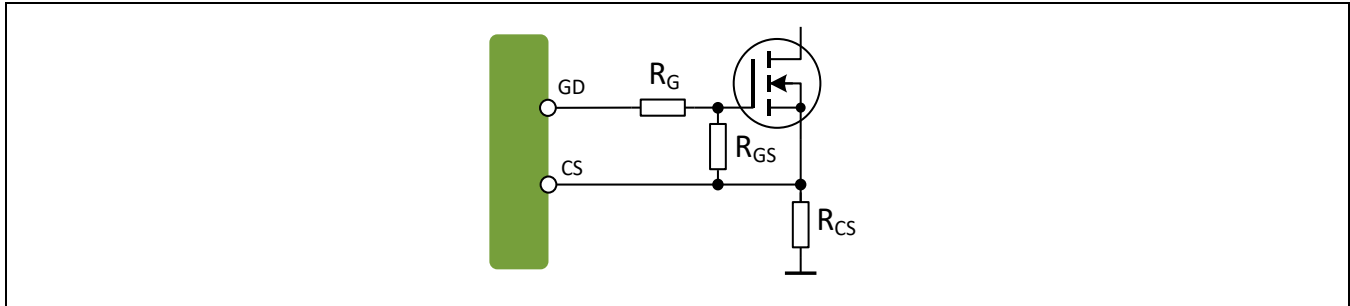

Figure 5 GD pin, CS pin, R_{CS} , R_G and R_{GS} connections
Figure 5 shows the connections of the current sense (CS) resistor R_{CS} , gate resistor R_G and gate source resistor R_{GS} .